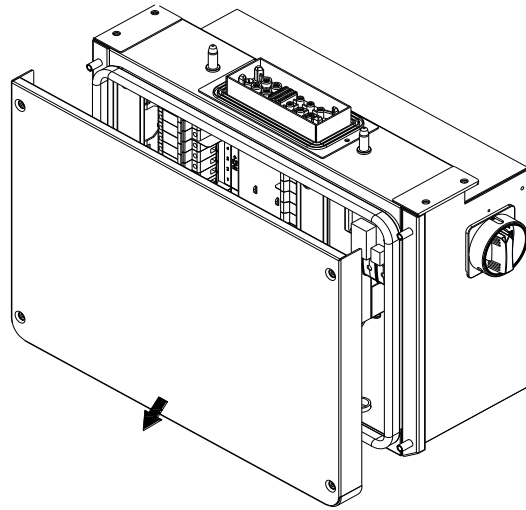

Figure 3-18 Removing the Wiring Box Cover
1. Use a No. 3 Philips head screwdriver to remove the 4 screws on the wiring box and remove the cover. (See Figure 3-18)